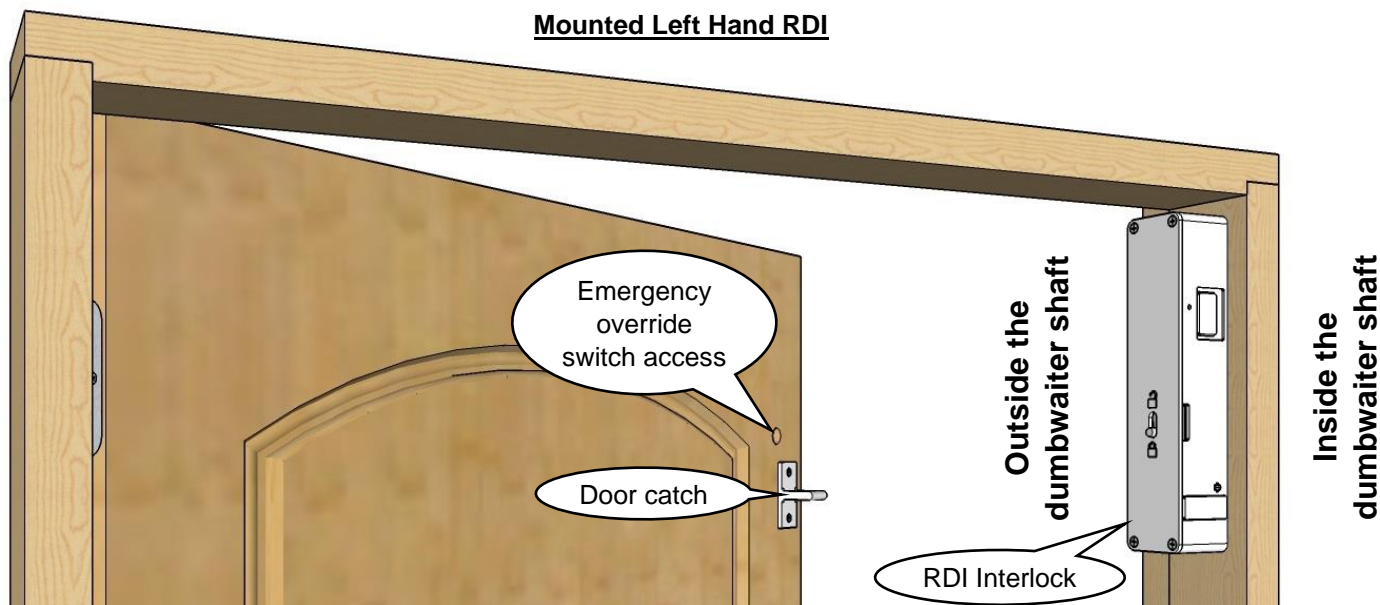

Figure 28
- 1** The RDI door interlocks must be mounted vertically and opposite the hinges. **(see Page 21, Figure 28)**